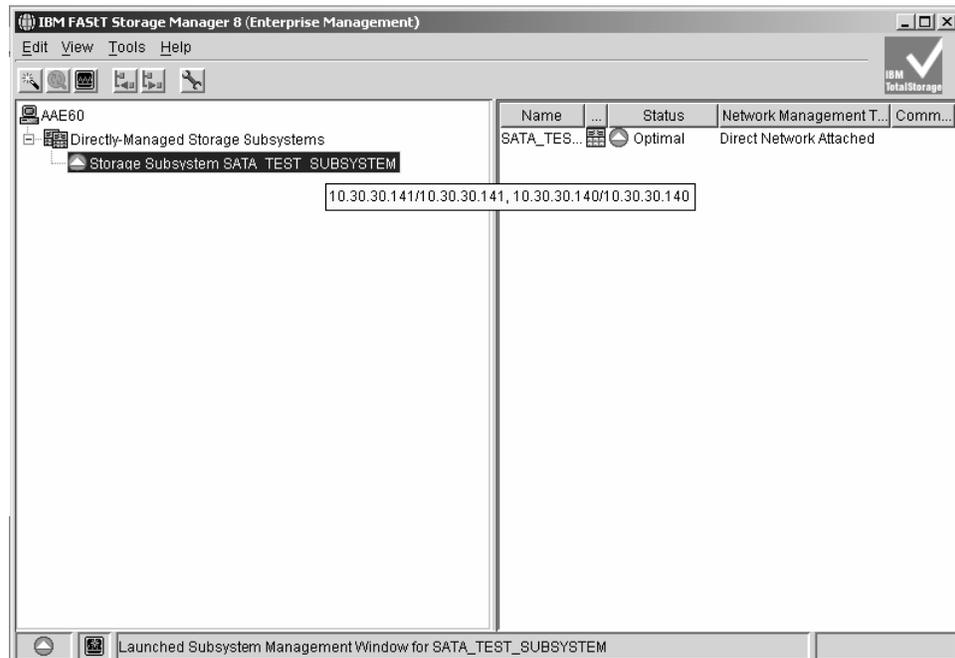

Figure 45. Only one entry appears in the Directly-Managed Storage Subsystem tree
- If Controller A starts up successfully after synchronizing with the firmware and NVSRAM in Controller B, Controller A and Controller B will be displayed as a single entry under the Directly-Managed Storage Subsystem tree in the Enterprise Management window as Figure 45 shows. Right-click the entry for Controller B and select **Manage Device**. A Subsystem Management window should open without being preceded by the Partially Manage Device window.